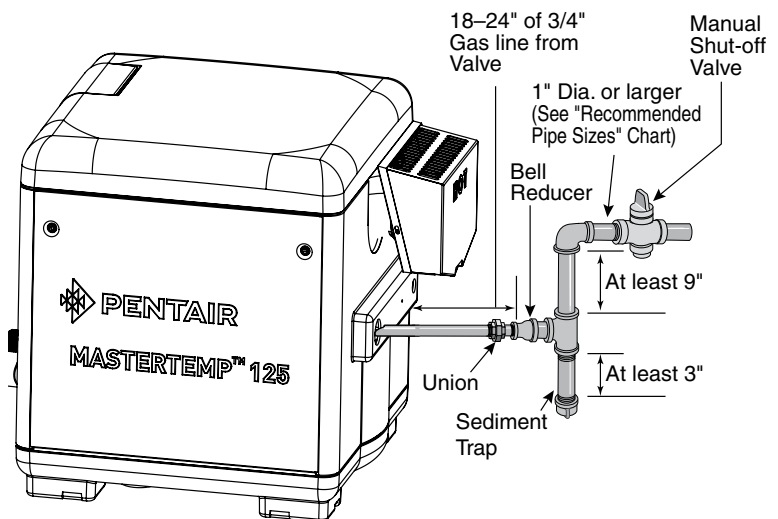

Figure 8.
The heater requires a gas supply of not less than 4" (10.2 cm) wc and not more than 14" (35.6 cm) wc. Gas supply pressures outside of this range may result in improper burner operation. A minimum flowing or dynamic inlet pressure (while the heater is running) of 4" (10.2cm) wc is required to maintain input rating with no more than a 2" pressure drop between static and dynamic. The gas supply must be installed in accordance with the *National Fuel Gas Code, ANSIZ223.1*, or standard *CSA B149.1, Natural Gas and Propane Installation Codes*, as applicable and all applicable local codes. Install a manual shut-off valve and a sediment trap and union located outside the heater panels, see Figure 8. Do not use a restrictive gas cock. The following minimum gas pipe sizes are recommended for natural gas supply piping, see Table 2 on page 17. For low pressure LP gas, pipe size may be reduced by 1/4", with a minimum pipe size of 1/2". Check for compliance with local codes.
Install a sediment trap and union located outside the heater panels in accordance with National code requirements. Do not use a restrictive gas cock. The sediment trap shall be either a tee fitting with a capped nipple in the bottom outlet which can be removed for cleaning, as shown in Figure 8, or an other device recognized as an effective sediment trap. All gas piping should be tested after installation in accordance with local codes.
If the heater is located under a roof overhang, there must be at least three (3) feet (1m) of clearance between the bottom of the overhang and the top of the heater exhaust vent, see Figure 8. If the heater is under a roof overhang, the space around the heater must be open on three sides. **DO NOT, under any circumstances, install the heater under ANY deck.**